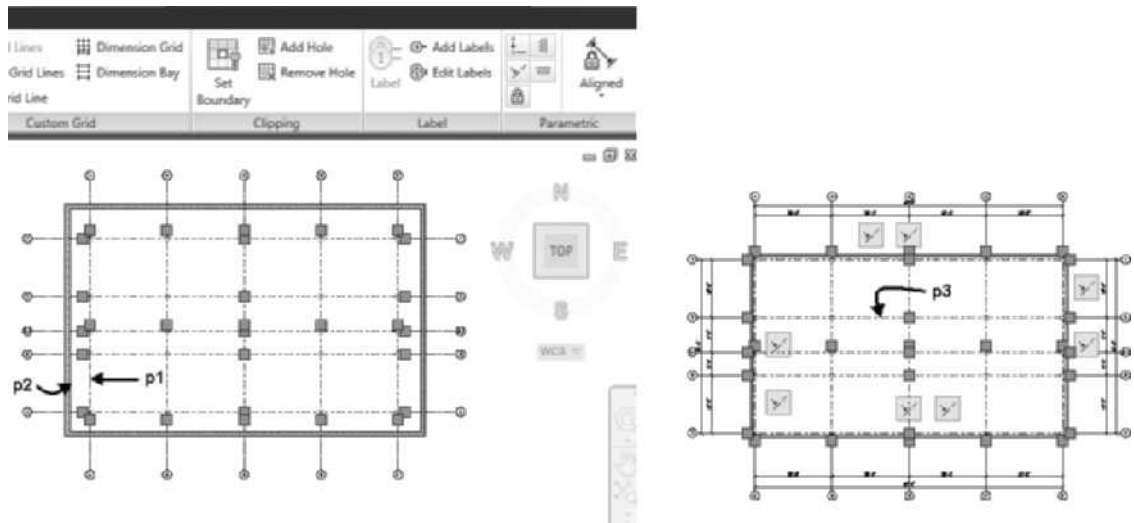

FIGURE 13.48 Constraining walls to a column grid
14. Select the Column Grid at p1 as shown in Figure 13.48. Choose **Collinear** from the Parametric panel of the Column Grid contextual tab. Respond to the workspace prompts as follows:
Select first object or [Multiple]: (Select column grid at p1 as shown in Figure 13.48.)
Select second object: (Select the edge of the concrete masonry wall at p2 as shown in Figure 13.48.)
15. Repeat step 14 to position the remaining exterior walls to the column grid as shown at right in Figure 13.48.
16. Select the column grid at p3 as shown in Figure 13.48 to display the Column Grid tab. Choose **Dimension Grid** from the Custom Grid panel. Respond to the workspace prompts as follows:
Enter offset distance <11'-4">: ENTER (Press ENTER to accept the default distance and place the dimension as shown in Figure 13.48.)